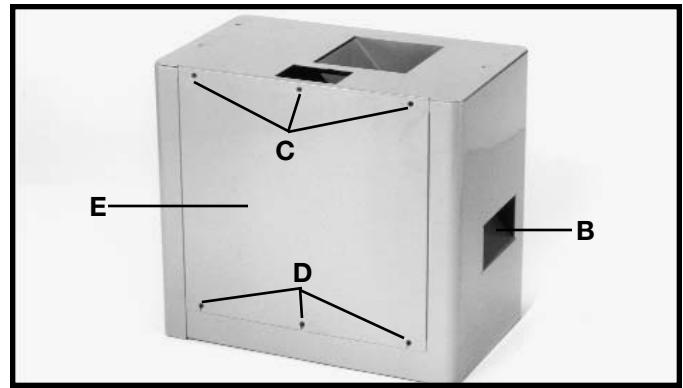

Fig. 5
1. The outfeed end of the jointer must be pointing toward the end of the stand with dust chute (B) Fig. 5.
2. Remove three screws (C) Fig. 5, and loosen three screws (D). Then remove back panel (E) from stand by lifting upward.